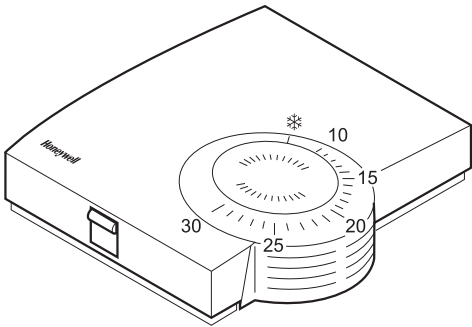

Fig. 15: Room unit HCW 80 (settings on the scale in °C)
- ▶ Select the desired room temperature set point at the adjustment dial (see Fig. 15).
- ▶ Check whether the adjustment dial is in the position shown in Fig. 15.